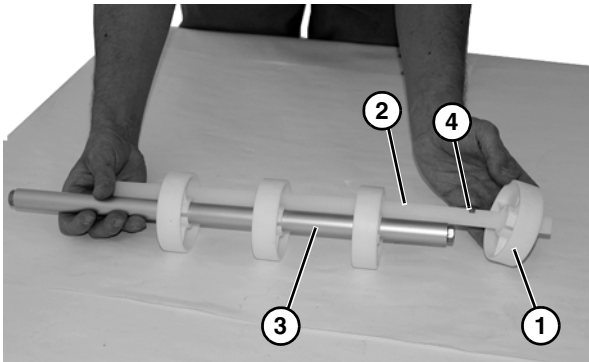

Figure 59
17. Remove rollers (**Figure 59, item 1**) and alignment bar (**Figure 59, item 2**) from shaft (**Figure 59, item 3**). Inspect and replace if worn.
18. Reinstall rollers and alignment bar, with each roller lining up with cutout area (**Figure 59, item 4**) on alignment bar.